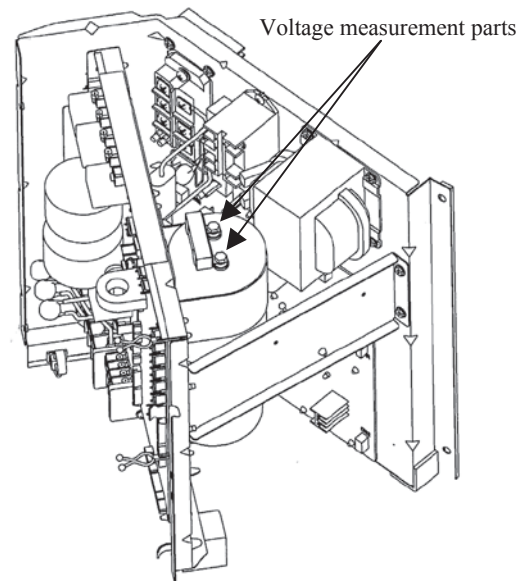

Fig.2 Position of capacitor
(Be sure to measure voltage (DC) on both capacitor terminals located in control back, and check that the voltage is discharged sufficiently. (Refer to Fig.2))